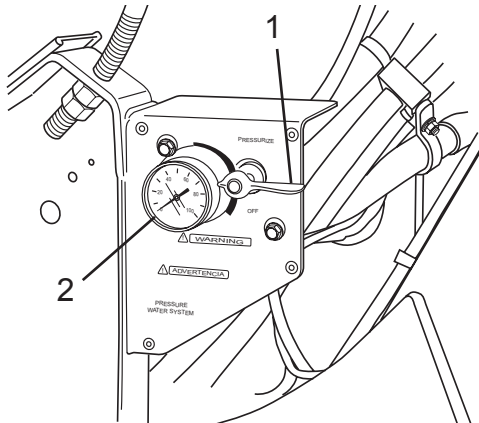

Figure 76
1. Turn air pressure control valve to EXHAUST position (Figure 76, Item 1). Make sure the gauge (Figure 76, Item 2) reads 0 psi (0 kPa).